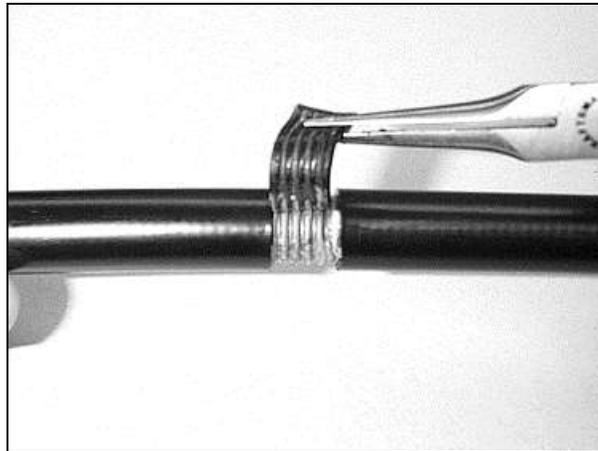

Figure 25 – Remove the ½-inch section of outer jacket.
6.6 Remove the 1/2-inch section of outer jacket to expose the armor (Figure 25).